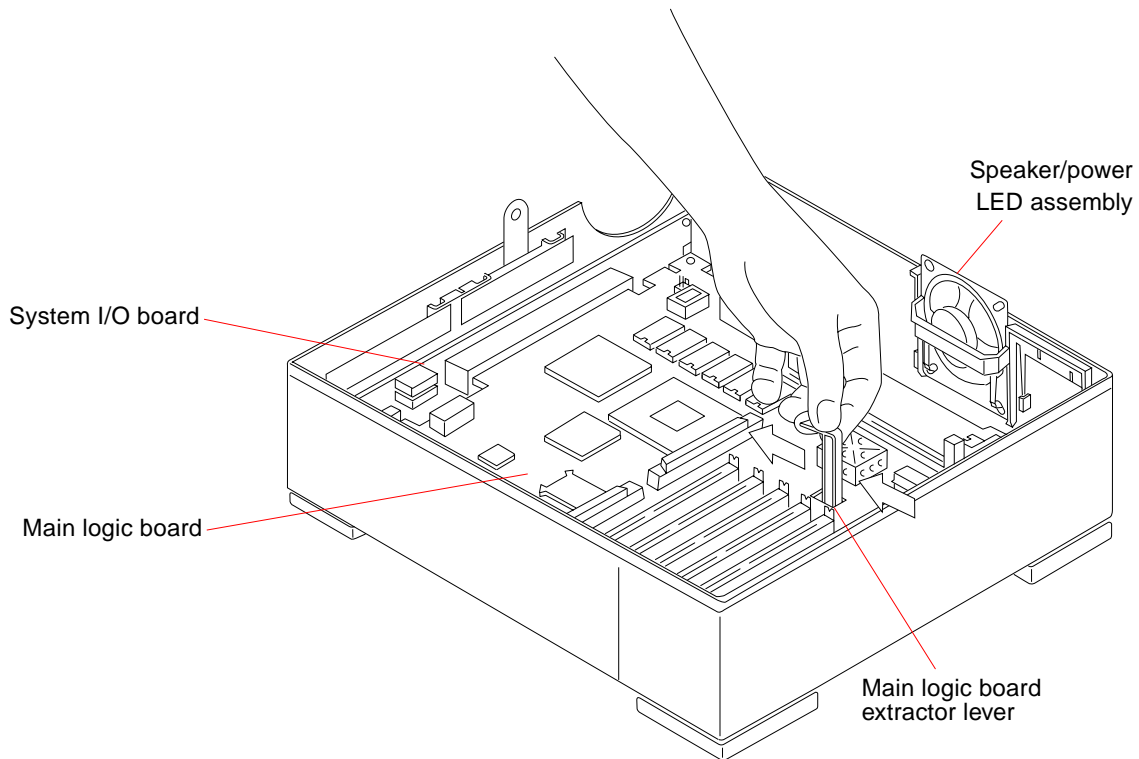

FIGURE 8-8 Plugging in the Main Logic Board
This section describes the removal and replacement procedures for the speaker/power LED assembly. This assembly is mounted on the right-hand side of the system unit bottom (see FIGURE 8-8).
- d. Push the main logic board extractor lever toward the rear of the system unit to plug the main logic board into the system I/O board (see FIGURE 8-8).**